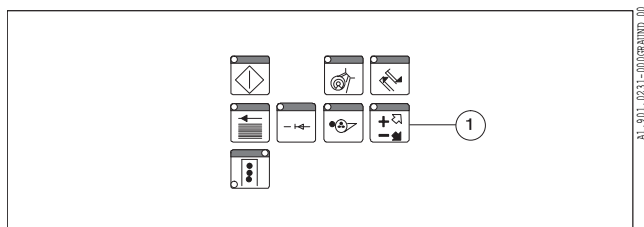

Fig. 21 *Position diagonal correction* button
1. **Press** the *Position diagonal correction* button (Fig. 21/1) **twice**.
1. **Press** the *Position diagonal correction* button (Fig. 21/1) **once**.